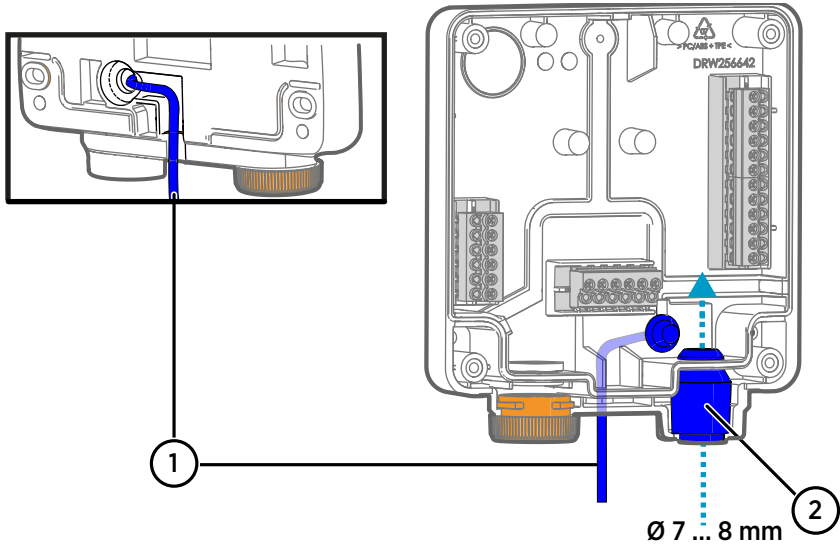

Figure 7 Indigo200 wiring options
- c. Nest the cable inside the groove on the back of the transmitter as shown in Figure 7 \(page 17\), and attach strain relief as needed.